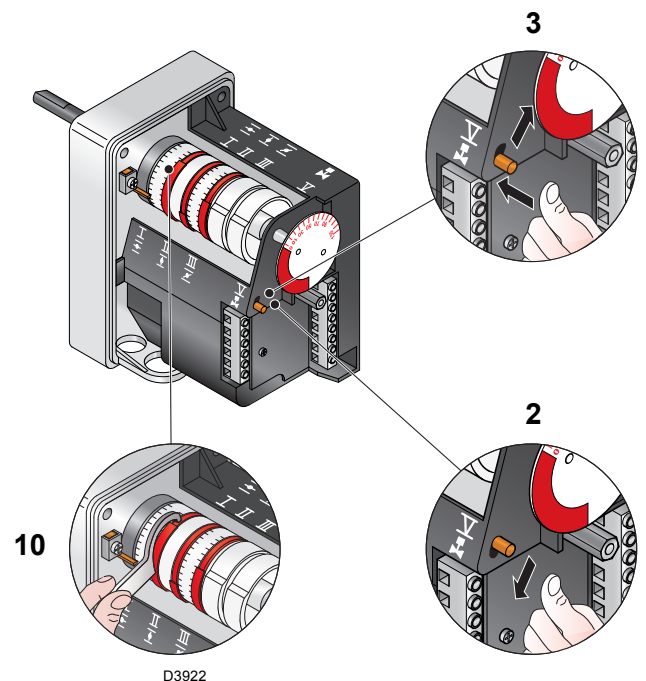

Fig. 29
- If it is necessary to reduce it, reduce slightly the angle of cam III (Fig. 29) with small, regular movements, i.e. bring it from an angle of 65° to 63° - 61°....
- If it is necessary to increase it, press slightly the button "output increase" 2)(Fig. 27) (open by 10-15° the gas butterfly valve), increase the cam III angle (Fig. 29) with small, regular movements, i.e. bring it from an angle of 65° a 67° - 69°....